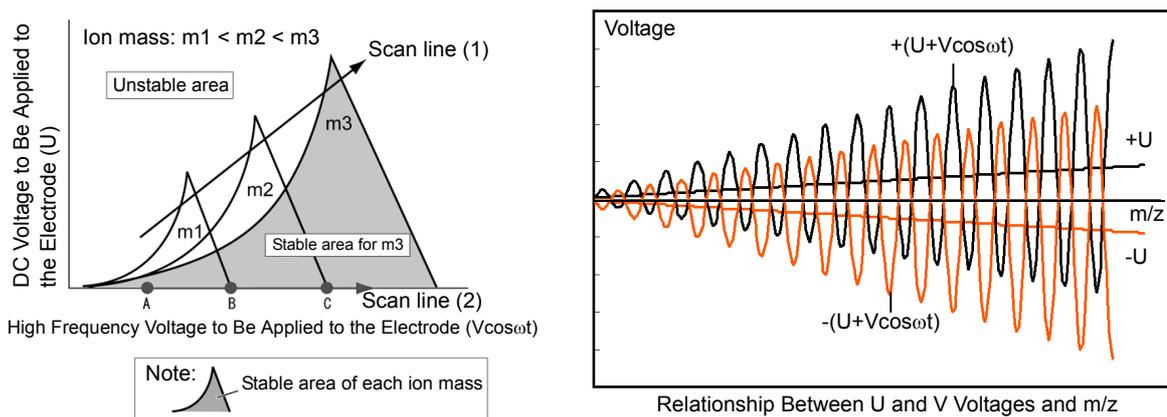

Fig. 2-22
The conditions under which the ions vibrate stably are expressed by the areas bounded by the lines of  $m_1$ ,  $m_2$  and  $m_3$  in Fig. 2-22 when the masses of the ions,  $m$ , and their angular frequencies,  $\omega$ , have been determined. There are different stable areas for the ions with masses  $m_1$ ,  $m_2$ , and  $m_3$ . If we vary the voltage while maintaining a constant ratio between the direct current voltage and the high frequency alternating current voltage so that it passes through each of the stable areas for  $m_1$ ,  $m_2$  and  $m_3$ , this will mean that ions in the area above the scan line (1) will pass through. This means that we can pass the ions  $m_1$ ,  $m_2$ , and  $m_3$  through in order. In this way, we can obtain a mass spectrum for ions with low masses through to ions with high masses.